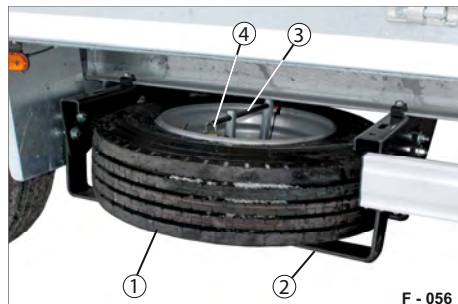

Fig. 75 Spare wheel storage (variety 2)
- ▶ Remove the padlock (Fig. 75/4).
- ▶ Put the spare wheel next to the spare wheel holder, and lift it onto the basket (Fig. 75/3).